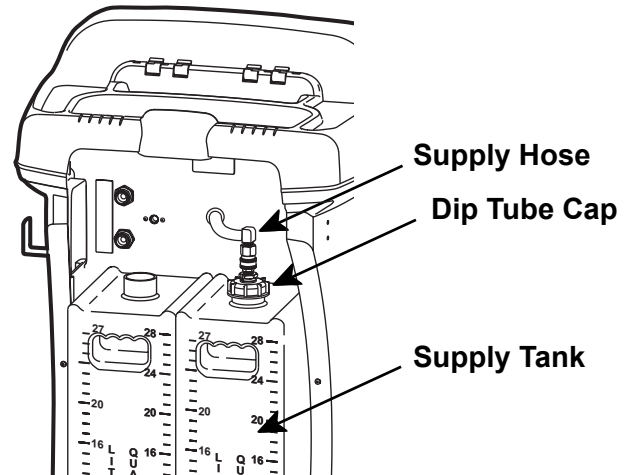

Figure 12
1. Disconnect the supply hose from the dip tube cap. See Figure 12. Remove the dip tube cap.